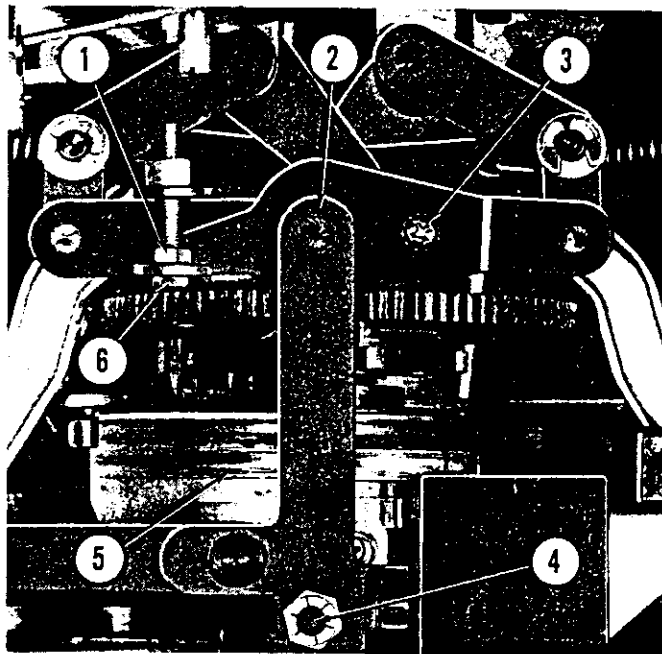
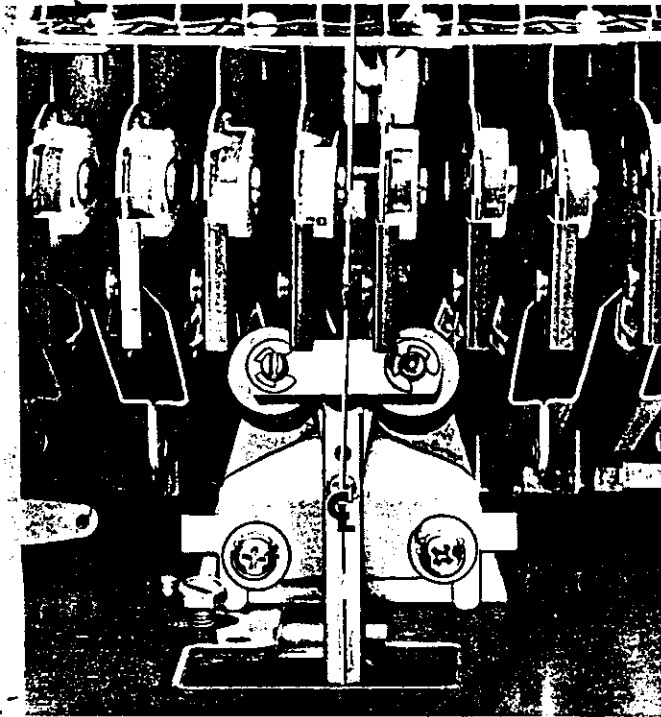

Fig. 81. RECORD LIFT ARM RETRACTED ADJUSTMENT
Fig. 82. CENTER LINE FOR BACK STOP PAWL SETTING
(2) Adjust the screw (Item 2) which links the cancel lever (Item 1) with the lower cancel arm (Item 7) to provide 1/32" overtravel of cancel action, as measured under the head of the adjusting screw at Item 4. This adjustment has no effect on the adjustments described in paragraphs "l and m" above.
o. Record Lift Arms, Retracted Adjustment. (Fig. 81)
When the main cam of the record changer is in its "at rest" position, the cam roller of the "link and lever assembly" (Item 2, Fig. 81) will be at its
(1) Loosen the lock nut and clamping screw (Items 1 and 3, Fig. 81).
(2) Turn the hex head adjusting screw into the stop nut to lower the lift arms or back it out to permit them to raise, thereby obtaining the requirement as stated above. If necessary, the lower stop brackets may be adjusted slightly to meet the requirements.
(3) Tighten the lock nut and the clamping screw and re-inspect the position of the arms after the mechanism has been operated.
p. Back Stop Pawl Adjustments. (Figs. 82 and 83)
(2) Turn the record carrier slowly in a clockwise direction until the center line of one of the record compartments is in accurate alignment with the left hand record lift arm as shown in Fig. 82.